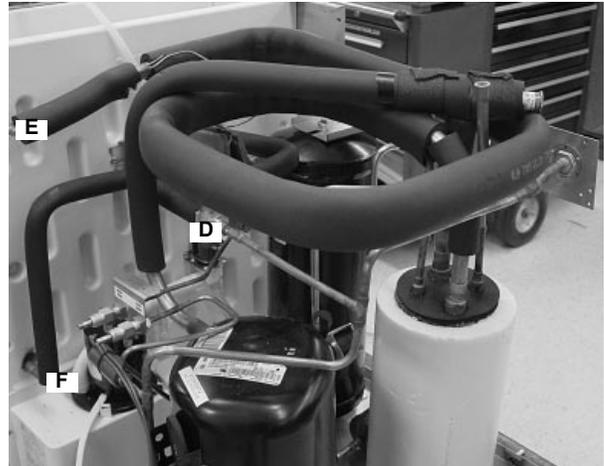

Figure 34.
Disassemble the hot gas valve (D) to allow nitrogen to flow through the system (Figure 34).
33. Using clamps or other means, secure the insulation away from the joints, and braze the Heat Exchange Suction Line to the evaporator inlet (E) and outlet (F) (Figure 34).